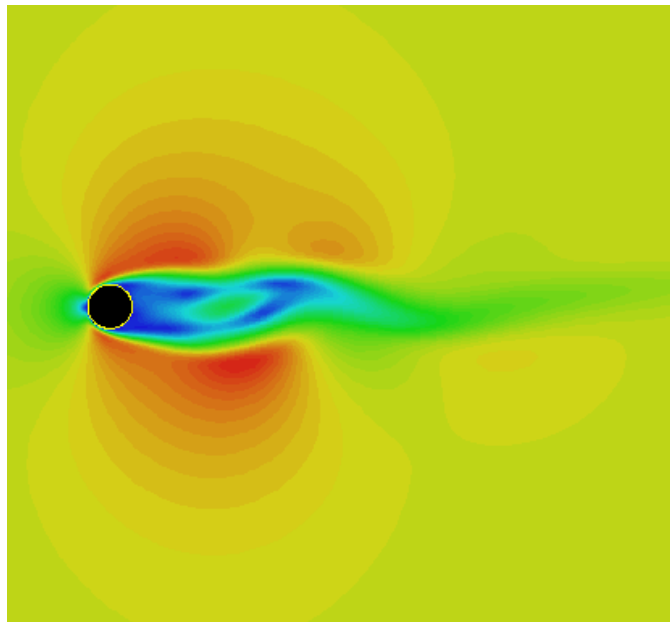

Figure 4.10.4: Contours of Velocity Magnitude at $t=1133.33$ s
3. For **Time Step**, select 170 and click **Apply**. Similarly, you can display contours at different time steps. Figures 4.10.4-4.10.6 show the development of flow over the cylinder.